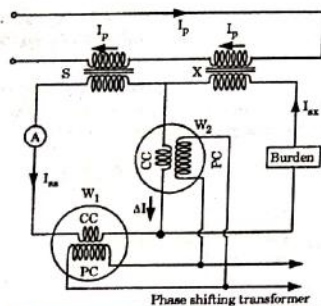

Fig. 3.19.1. Silsbee's deflectional method.
3. The arrangement for deflectional method is shown schematically in Fig. 3.19.1.